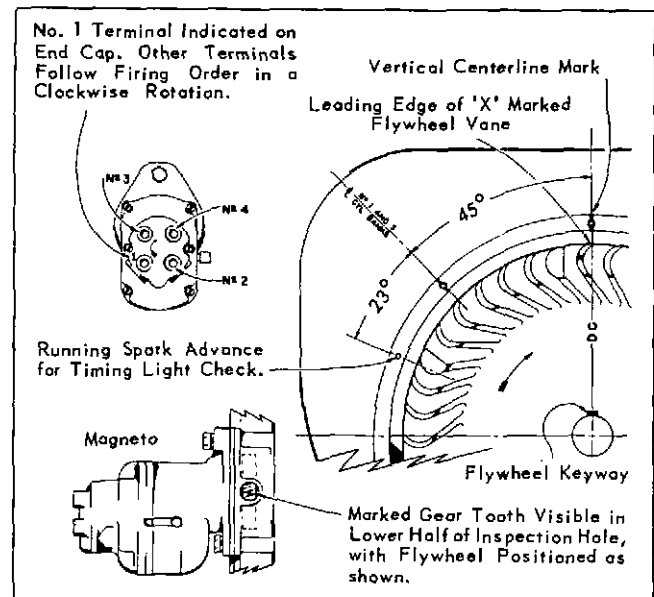

Fig. 10
3. With No. 1 piston on compression stroke turn engine over past top dead center, until the **leading edge** of the 'X' marked vane on the flywheel is in line with the **vertical centerline mark** on the shroud, as shown in Fig. 10. Leave flywheel in this position (flywheel keyway will be on top).
hole in gear cover. See *Magneto Timing Diagram, Fig. 10*. Securely tighten nut and capscrew for mounting magneto.
The running spark advance is 23°. To check timing with a **neon light**, the advance is indicated by a hole on the flywheel shroud, 23° before **centerline** of the No. 1 and 3 cylinders. See Fig. 10.